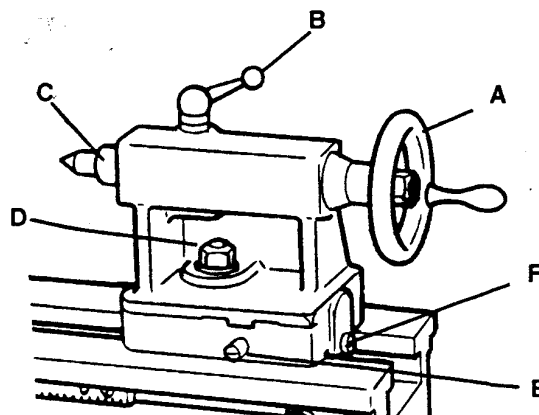

FIGURE 19
**RAM LOCK LEVER (B, Figure 19)** locks ram in place. **NOTE:** Before attempting to move ram, loosen ram lock.
**HANDWHEEL (A)** moves the tailstock ram (C). To advance ram, turn handwheel clockwise, to retract ram or eject center, turn counterclockwise.